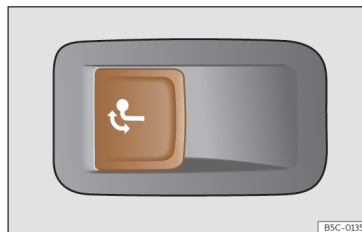

Fig. 188 On the left side of the luggage compartment: button for unlocking the tow hook.
- Pull the **>>> Fig. 188** button briefly. The tow hook unlocks electrically and automatically turns outwards. The button's control lamp flashes.
- Pull the **>>> Fig. 188** button briefly. The tow hook unlocks electrically.
- If the warning light on the button **>>> Fig. 188** → flashes, this means that the
- If the warning lamp **>>> Fig. 188** → remains on with the rear lid open, the tow hook is correctly in place both when extracted and when covered.
- Never press the **>>> Fig. 188** button when there is a trailer hooked to the vehicle or when a carrier system or other accessories are mounted on the tow hook.